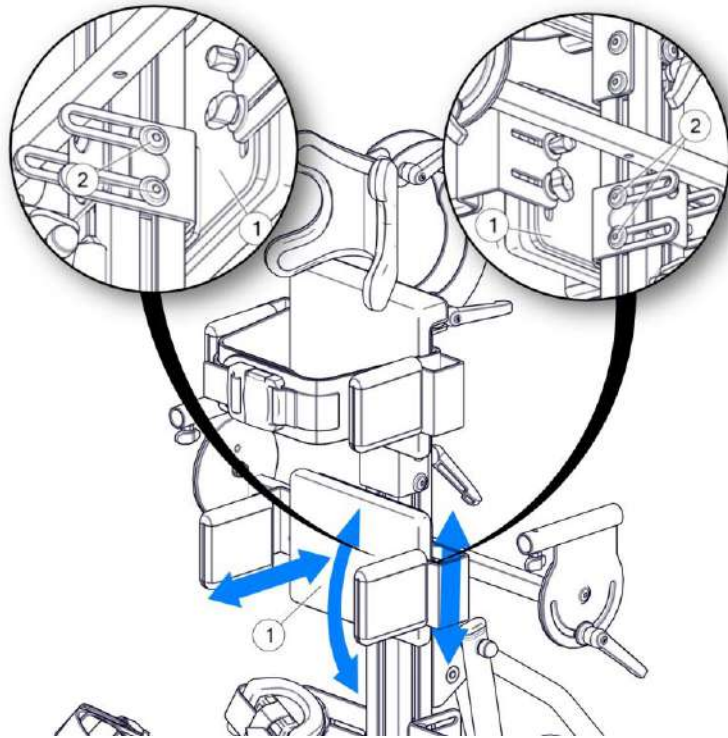

Figure 7
7.3. Main Hip support – Figure 7